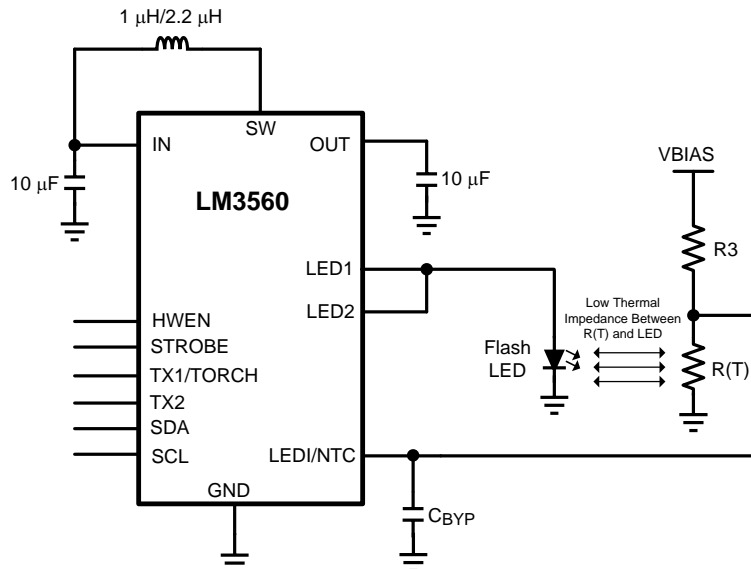

Figure 45. Typical Application Circuit with Thermistor
Programming bit [4] of Configuration Register 1 with a '1' selects NTC mode and makes the LED1/NTC pin a comparator input for flash LED thermal sensing. Figure 45 shows the LM3560 using the NTC thermistor circuit. The thermal sensor resistor divider is composed of R3 and R(T), where R(T) is the Negative Temperature Coefficient Thermistor, V_{BIAS} is the bias voltage for the resistive divider, and R3 is used to linearize the NTC's response around the NTC comparators trip point. C_{BYP} is used to filter noise at the NTC input.
6. The NTC Thermistor is intended to have its return path connected to the LEDs cathode. This allows the thermistor resistive divider voltage (V_{NTC}) to trip the comparators threshold as V_{NTC} is falling. Additionally, the thermistor-to-LED cathode junction should be connected as close as possible in order to reduce the thermal impedance between the LED and the thermistor. The drawback is that the thermistor's return will see the switching currents from the LM3560's boost converter. Because of this, it is necessary to have a filter capacitor at the NTC pin which terminates close to the GND of the LM3560 (see C_{BYP} in Figure 45).